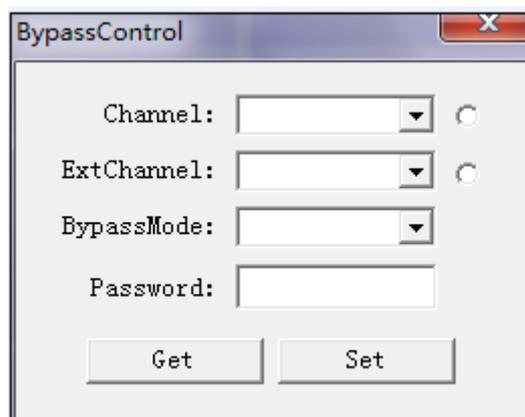

Figure 2- 8
Step 1. In Control&Search dropdown list, select bypass. See Figure 2- 8.